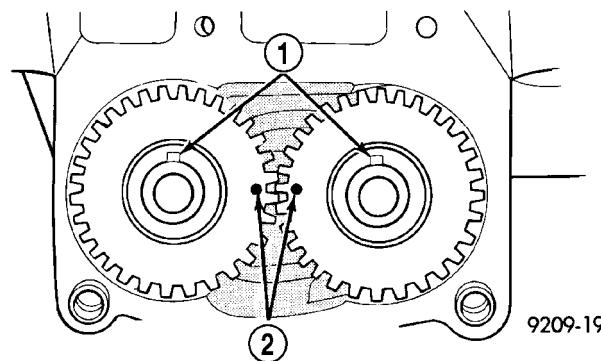

Fig. 139 Gear Timing
(2) Turn balance shafts until both shaft key ways are up, parallel to vertical centerline of engine. Install short hub drive gear on sprocket driven shaft and long hub gear on gear driven shaft. After installation gear and balance shaft keyways must be up with gear timing marks meshed as shown in (Fig. 139).